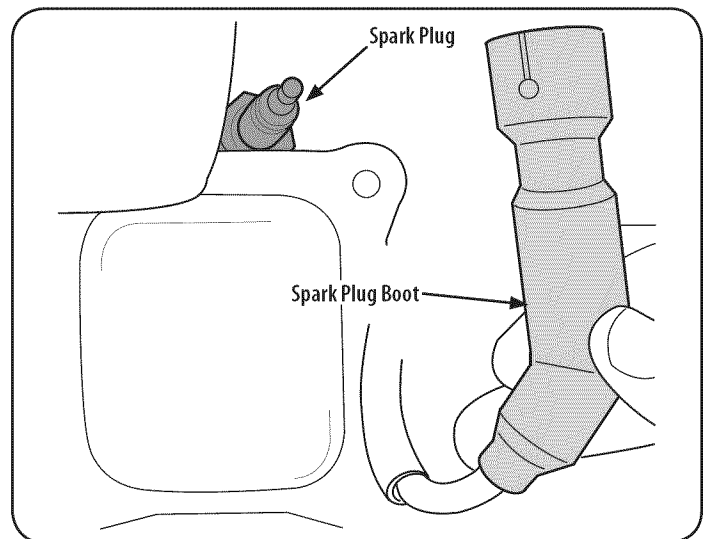

Figure 18
1. Remove the spark plug boot and use a spark plug wrench to remove the plug, See Figure 18.